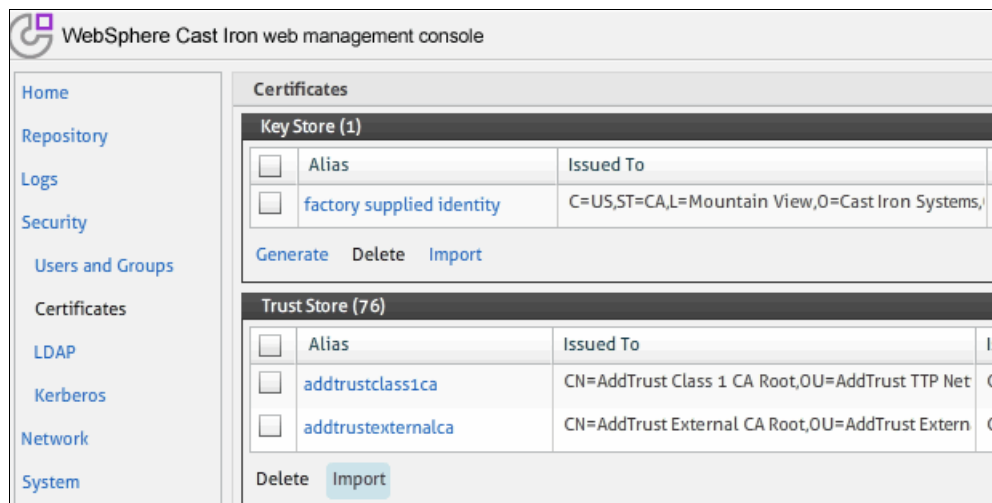

Figure 5-34 Import a signer certificate
1. In the WMC, go to **Security** → **Certificates**, and in the Trust Store section click **Import**, as shown in Figure 5-34.